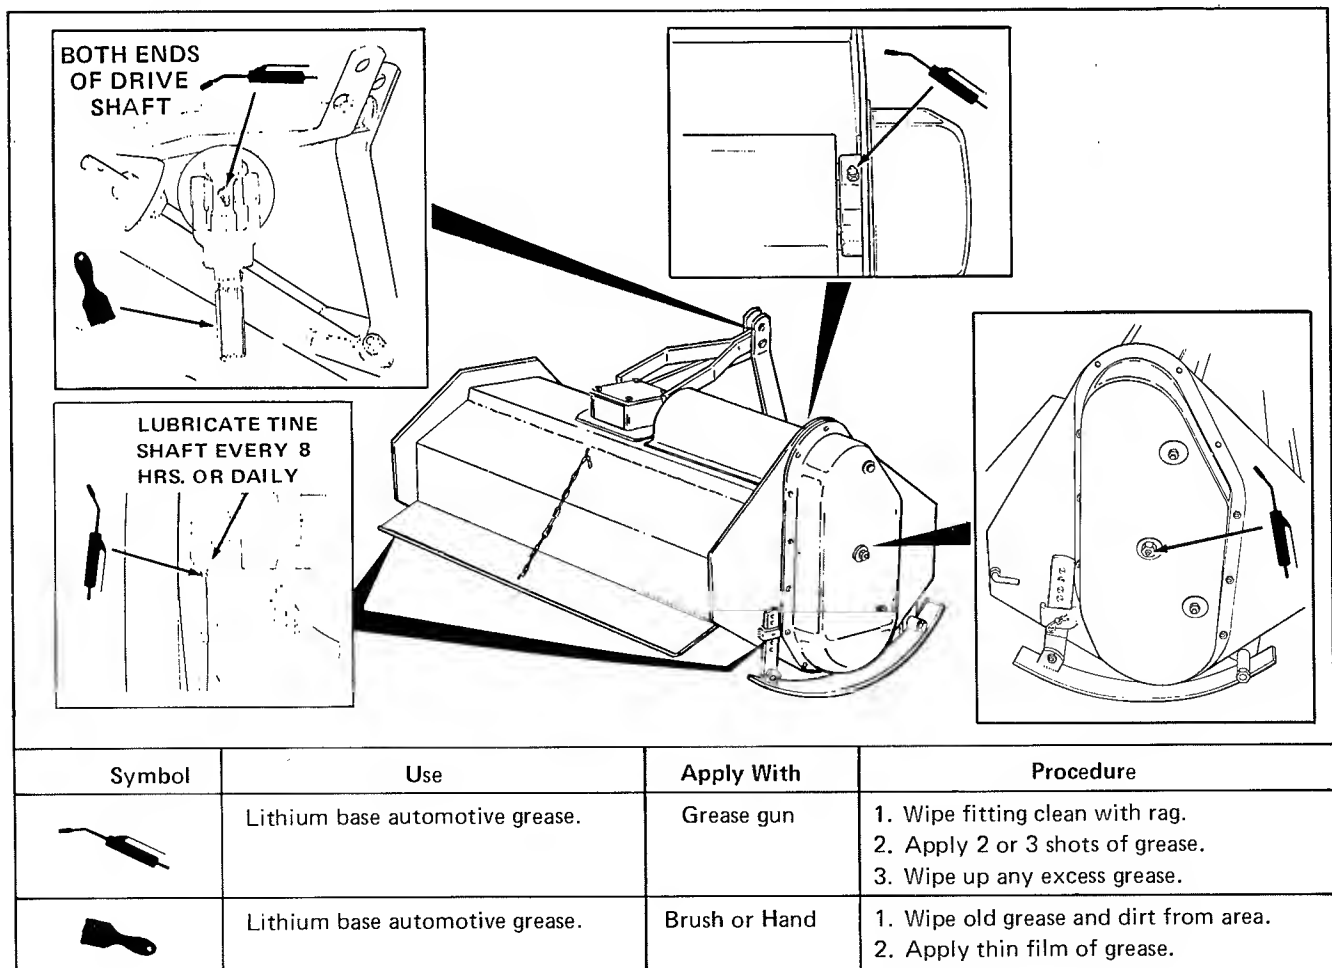
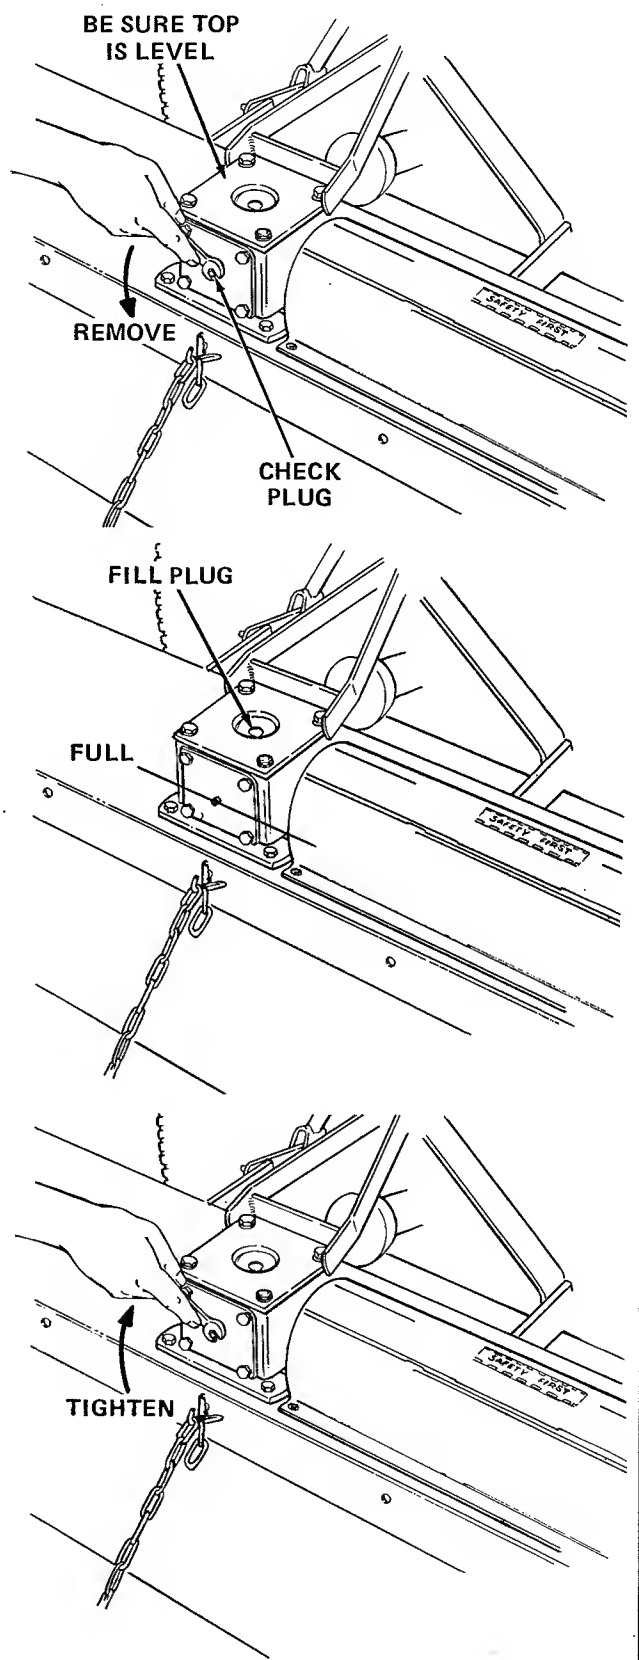

Figure 7. Lubricate Rotary Tiller (Every 25 Hours)
Figure 8. Check Gear Box Oil Level (Every 25 Hours)
The only care required for the rotary tiller on a regularly scheduled basis is lubrication. The rotary tiller must be lubricated as shown in figures 7 and 8 before the first use and after every 25 hours of operation.
4. Lubricate rotary tiller. (See figure 7.) Check gear box oil level. (See figure 8.)